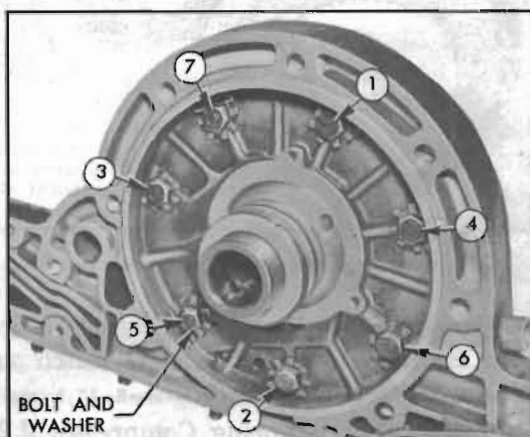

Figure 5-69—Front Oil Pump Tightening Sequence
4. Install oil pump on cover so that the two dowel pins and the bolt holes match holes in cover, then install bolts with lockwashers. Tighten bolts to approximately 5 ft. lbs. torque in the sequence shown in figure 5-69 and then tighten in same sequence to 25-30 ft. lbs. Bend a tang of each lockwasher up against flat of bolt head. Tighten cover attaching stud nut to 25-30 ft. lbs. torque.